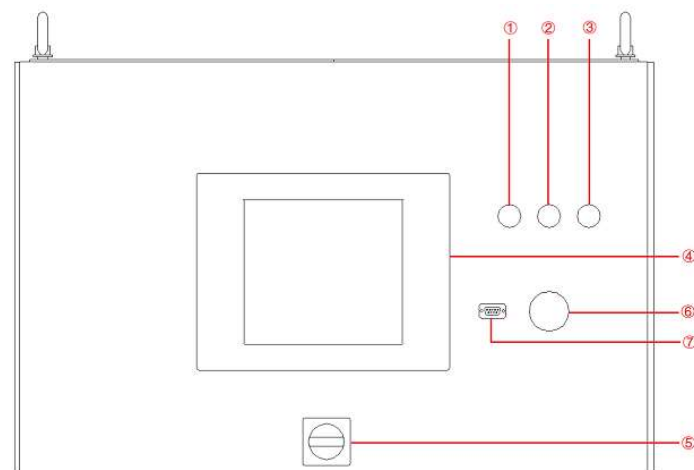
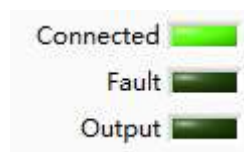

Figure 3-4 Front Panel
Figure 3-5 Indicators on TFT Touch panel
A few seconds after the power is initialized, the control unit and touch screen work, the power supply is standby. If the power supply communication is normal, the white light (Figure 3-4 ①) is always on, and the "Connect" indicator on the TFT touch panel is green (Figure 3-5).